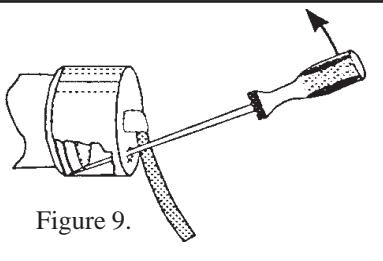

Figure 9.
3. Remove the snap-on cord cap by inserting a slotted screw driver into the access hole as illustrated in Figure 9 and prying upwards.
3. Remove the snap-on cord cap by inserting a slotted screwdriver into the access hole and prying upwards; see Figure 9, Section IV, Relamping Instructions.